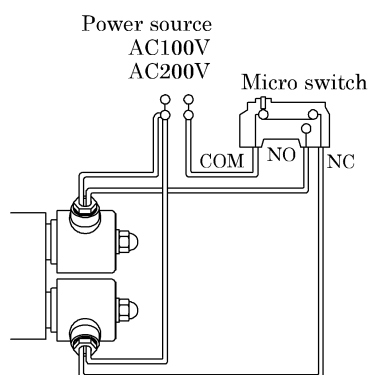

Fig. 1
- Wire it as per illustrated in Fig. 1 above when intending to utilize one only micro switch.